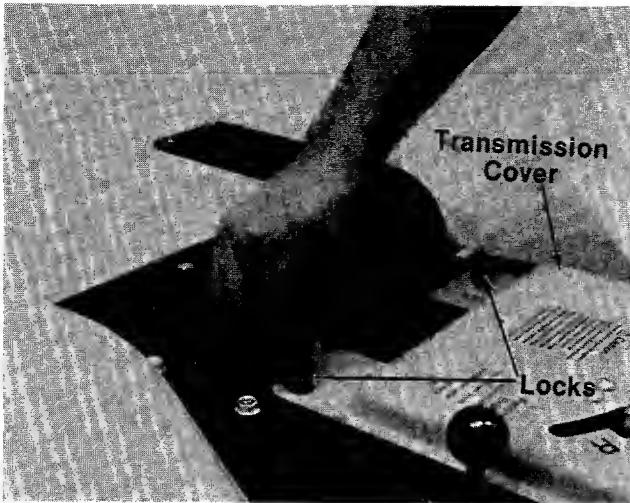

FIGURE 7.
2. Push down and turn the locks on the transmission cover one-quarter turn. See figure 7.